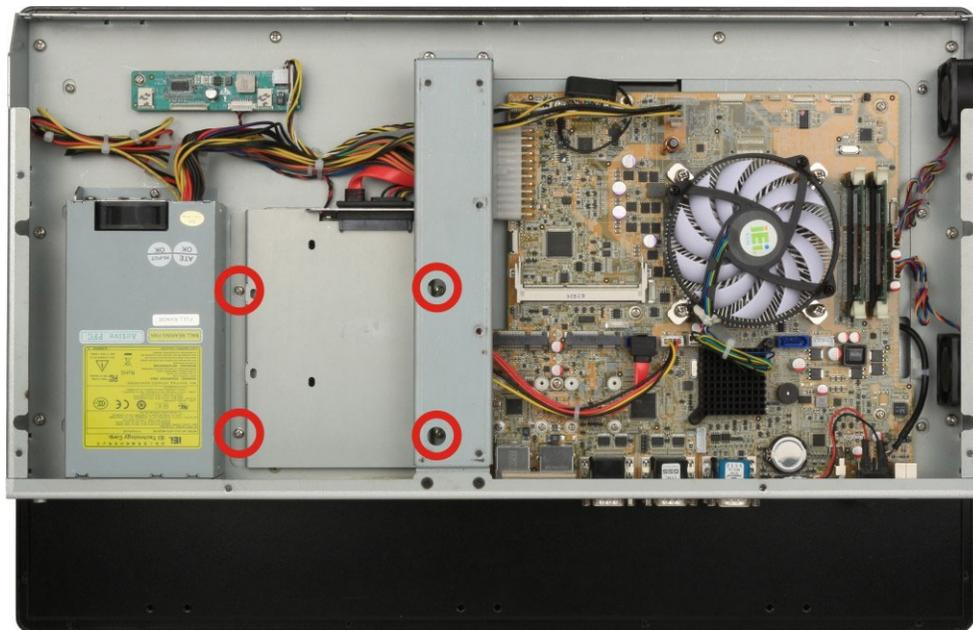

Figure 3-5: PPC-F22A/F24A-H81 HDD Bracket Retention Screws
- Step 2:** Remove the HDD bracket from the PPC-F22A/F24A-H81. The HDD bracket is secured on the panel PC with four retention screws (Figure 3-5). Remove the four retention screws and lift the bracket off the panel PC.